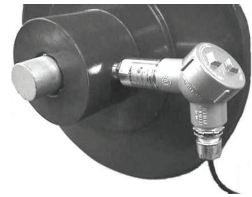
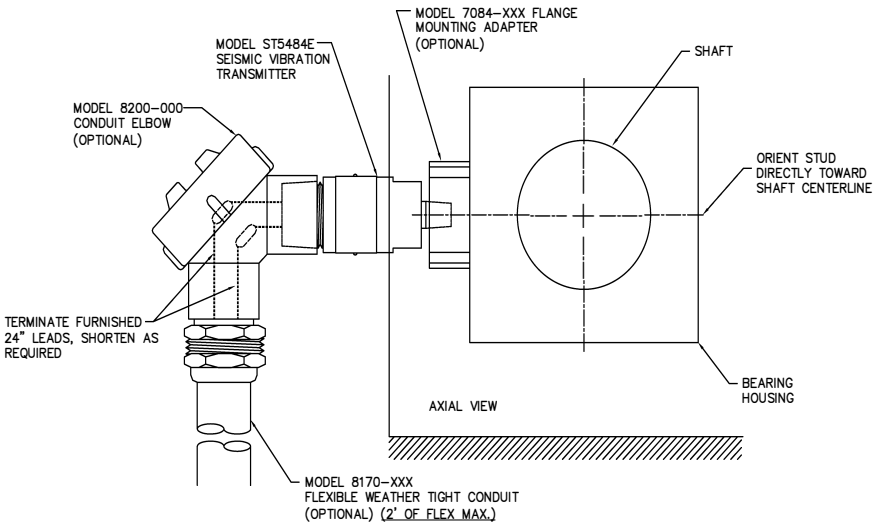

Figure 2
Figure 3
Typical transmitter mounting for casing vibration measurements is in the horizontal direction at the bearing housings as depicted in Figure 2. The horizontal direction usually incurs more vibration because most machines’ foundation constrains vertical vibration more than horizontal vibration. A horizontal mounting arrangement is also depicted in Figure 3, but with additional detail showing typical accessories.
When flying leads are ordered, a 24- or 72-inch length may be specified using ordering option D on the Metrix product datasheet 1004457. These leads may be cut to length and then spliced to field wiring as shown in Figure 3.
**NOTE:** Hazardous area locations do not allow a splice at the location shown in Figure 3. Instead, the splice must be made in a second conduit hub (meeting splicing requirements) located at the end of flexible conduit.